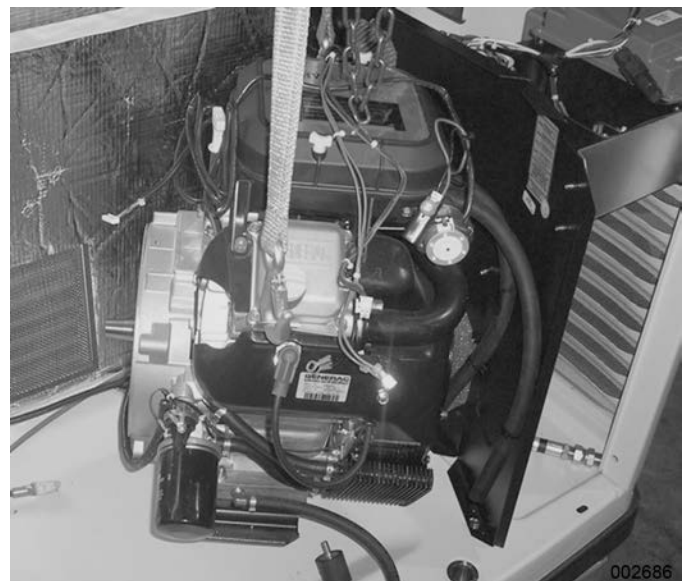

Figure 6-53.
29. **Remove Engine:** See **Figure 6-53**. Use appropriate lifting equipment to remove the engine.